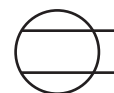

Figure 5
5. The symbol in Figure 5 is a: